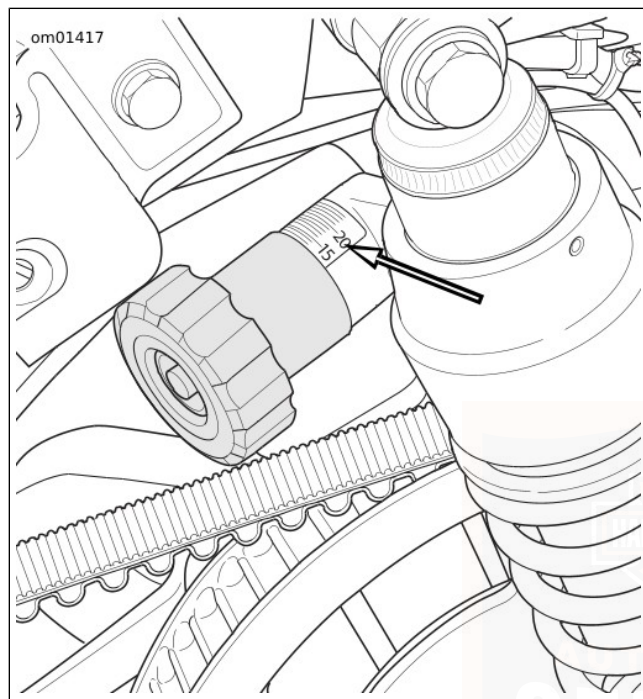

Figure 13. Preload Adjustment Knob
2. See Figure 13. Rotate the knob to the desired setting for the expected load. The knob will click after each half turn. Refer to Table 19, Table 20 or Table 21.